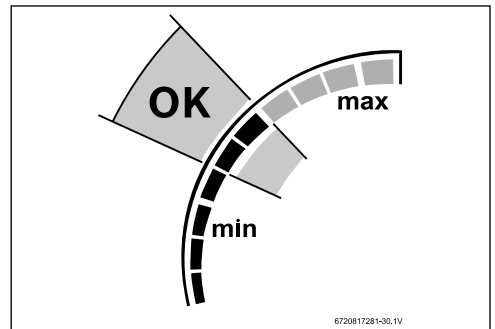

Fig. 58 Power bar middle point
- ▶ Verify if power bar level is at middle point, see fig. 58.